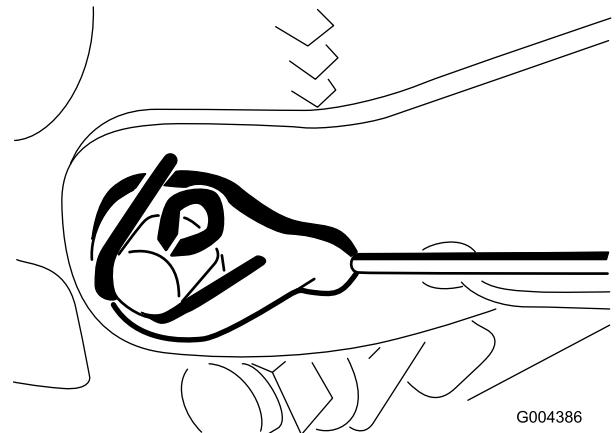

Figure 11
8. Insert the cotter pin and bend the cotter pin ends as shown in Figure 11.